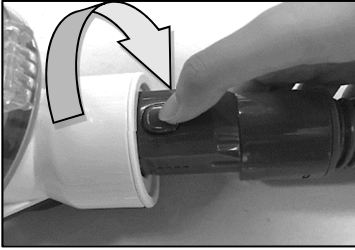

Fig 1
1. **Connect the hose accessories:** Put the hose connector in front of the vacuum cleaner .Then insert it into the inlet hole and turn right. (Fig 1)